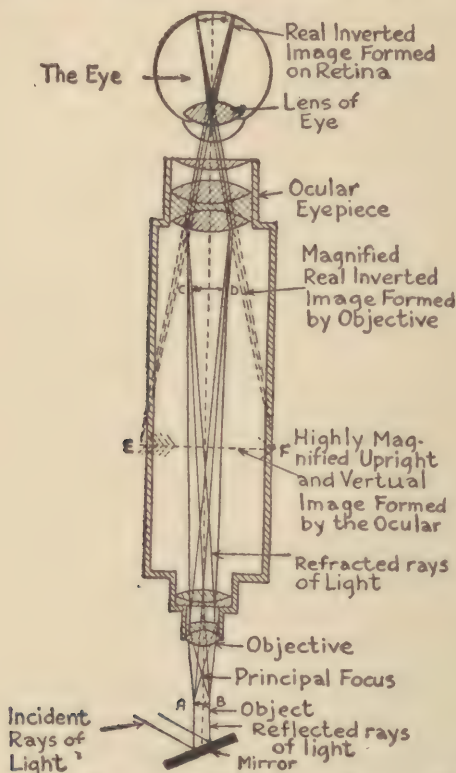

FIG. 14.—HOW A COMPOUND MICROSCOPE FORMS A MAGNIFIED IMAGE
The Lenses of the Compound Microscope.—In its simplest form the compound microscope consists of (1) an *objective lens*, or *objective*, as it is called for short; this is a double convex lens, and is called an objective because through it the rays of light from the object first pass; (2) this objective is mounted in a tube, the purpose of which is to exclude from the eye all rays of light except those passing through the objective from the object; (3) in the other end of this tube is mounted another and shorter tube which has fixed in it (4) the *ocular*, or *eyepiece*, which can be moved toward or away from the objective, all of which is shown in *A* in Figure 14.
So that you can clearly understand the action of the rays of light after they are reflected from the object and refracted by the lenses of the microscope take a look at *B* in Figure 14, which shows diagrammatically how the magnified image is formed by a modern compound microscope. You will note that the lenses shown are achromatic, but these are shown only to lend the aspect of realism to the diagram, their action being the same as that of the ordinary double convex lens previously shown and described.